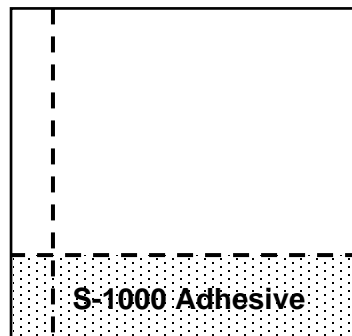

Figure 2: Adhesive
- Apply a 3" (7.6 cm) band of S-1000 around the perimeter of the room and at all floor drains (Figure 2). Full spread the remaining area using S-995 Adhesive. Allow the recommended open time before placing the material into the adhesive. Working time of the S-1000 is approximately 45 minutes. Do not allow the S-1000 to dry completely.